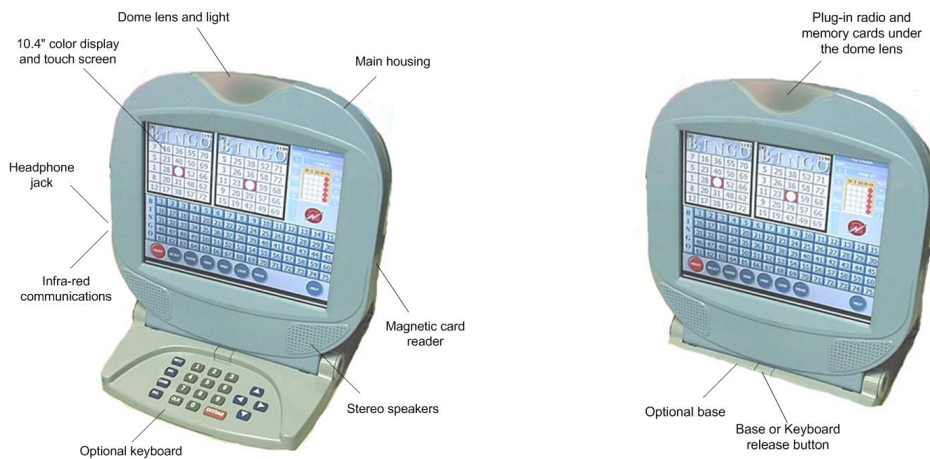

Figure 1.1
The E-max™ unit features a large, high quality color display. The flexible design of E-max™ allows it to be used in battery powered, portable applications, with or without radio (RF) communications, **OR** in AC line powered, fixed station operations, with RF or Ethernet communications (Future). (Figure 1.1)